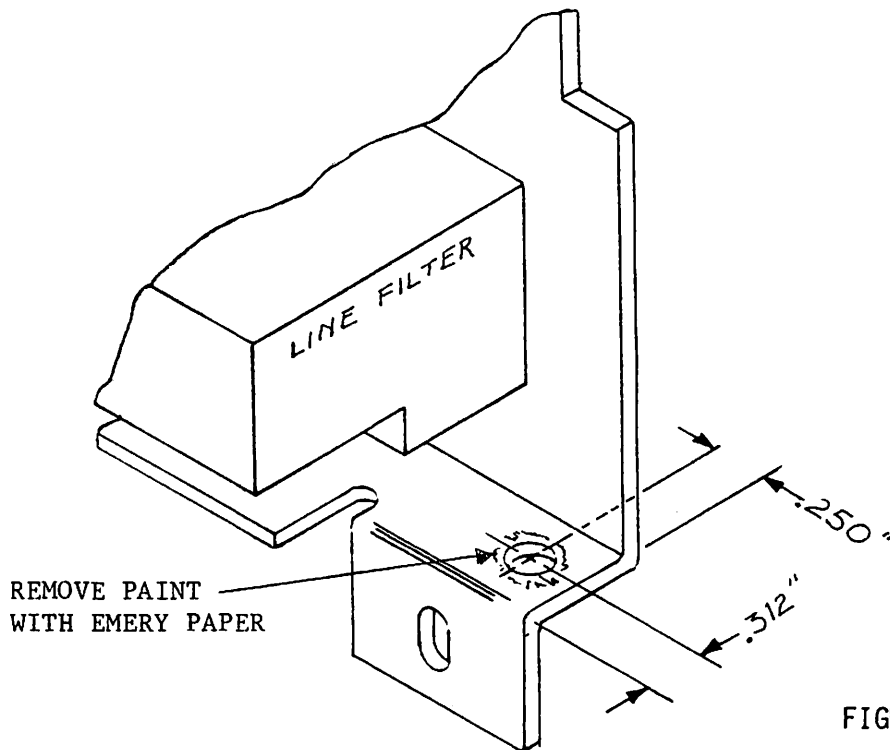

FIGURE 4
4. Drill a 3/16" hole in the power supply chassis in the outside rear corner as shown in Figure 4. Remove paint from around the drilled hole with emery paper.